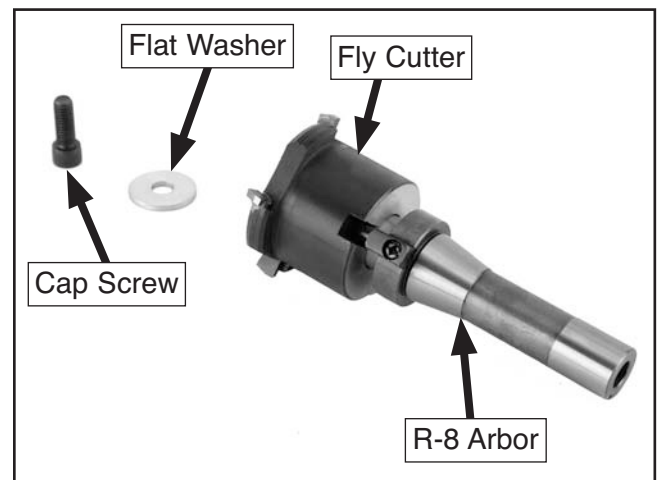

Figure 23. Face mill assembly.
2. Fit the face mill onto the stub end of the arbor so the keys on the arbor and the keyways on the face mill come together (**Figure 23**).